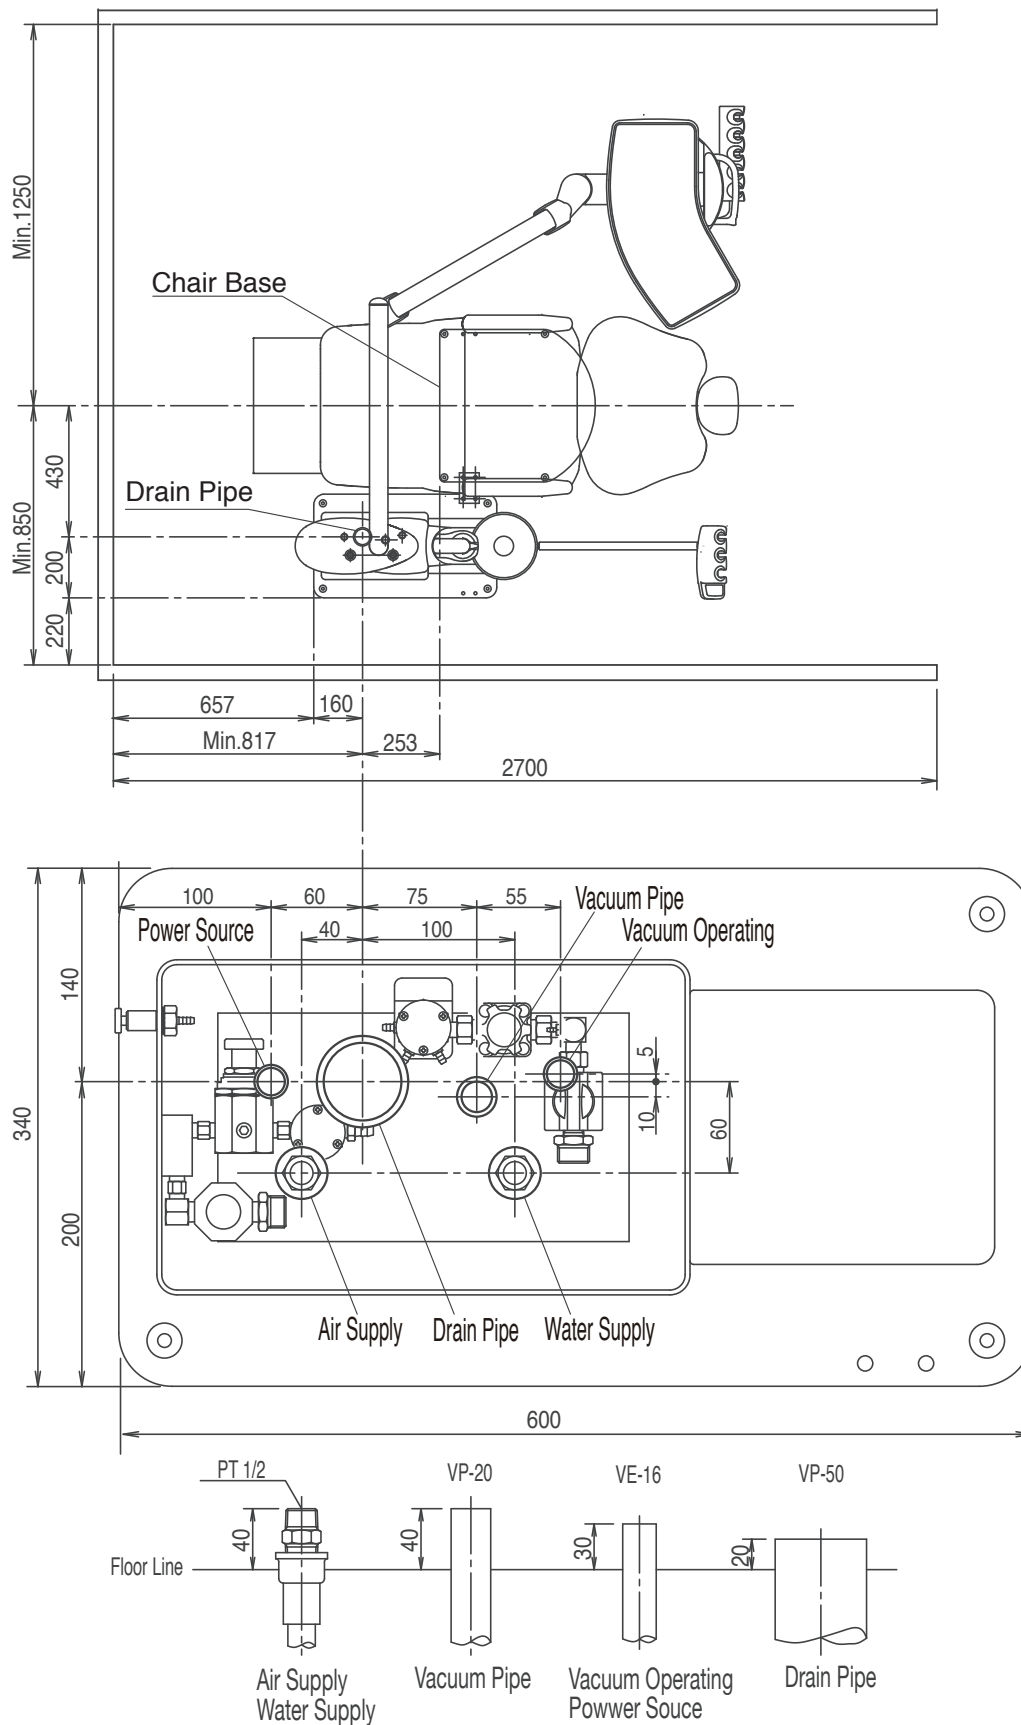

Fig.3-1 Installation Position and Plumbing Layout
- (1) The CLESTA II dental unit comprises of a Chair section, Cuspidor section, Doctor table section and Light section.
- (2) The CLESTA II should be mounted taking the opening end of drain pipe into due consideration. Refer to Page 5, Fig.3-1.
- (3) The area on which the CLESTA II (250 kg) is to be installed must have endurance force of 250kg/cm².
- (4) The installation position of the CLESTA II chair is shown in Fig.3-1 as a recommended example.
- (1) All piping and conduit for cables are to be laid under the floor and to come out from the floor in the positions shown Fig 3-1
- (2) The installation position and height from the floor of each pipe and cable conduit are shown in Fig.3-1.
- (3) The recommended sizes, materials and end piece are shown in Table 1.
- (4) Regarding installation of the vacuum pump and its connection to the main suction line, follow the specifications of central vacuum pump system manufacture's recommendation.
- (5) All Piping should be arranged avoiding bends as much as possible.